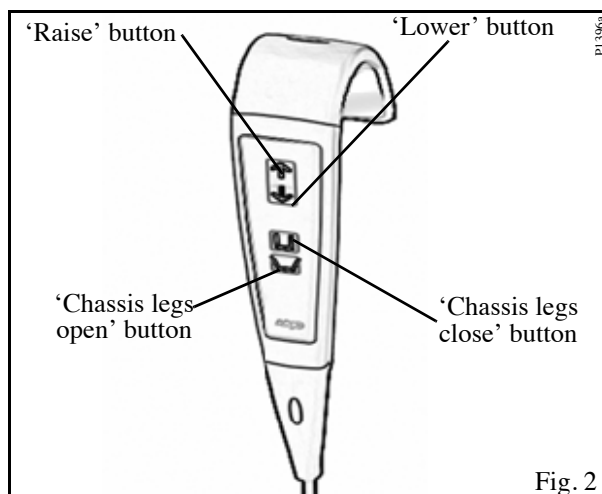

Fig. 2
**Control handset:-** Is a semi-remote control unit attached to the lifter by an extending cable. The handset controls lift and lower and chassis leg opening/closing. Direction arrows adjacent to the buttons indicate each function. (See Fig. 2). If pressure is released from any button during use, powered movement will stop immediately.